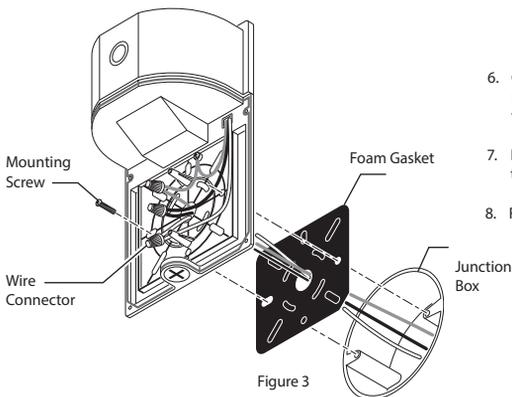

Figure 3
- Remove the paper backing on the foam gasket and press it against the back of the light fixture so the edges of the gasket line up with the inset area on the back of the fixture (Figure 3).
- Route the house wiring into the light fixture (Figure 3):
- Mount the light fixture (Figure 3):
- Connect the fixture wires to the house wires using the included wire connectors (black to black, white to white, and green wire to house ground wire). See Figure 3.